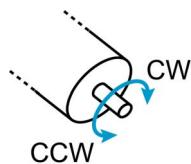

Figure 8-126 Adjustment of SSI commutation offset value | Check sense of rotation
b) Turn the motor shaft by hand counterclockwise (CCW) as seen towards the motor's mounting flange (→Figure 8-126).